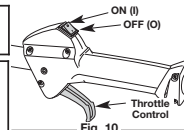

Fig. 10
NOTE: There is no need to turn the unit on. The On/Off Stop Control is in the ON (I) position at all times (Fig. 10).
2. Press and hold the On/Off Stop Control switch in the OFF (O) position until the unit comes to a complete stop (Fig. 10).